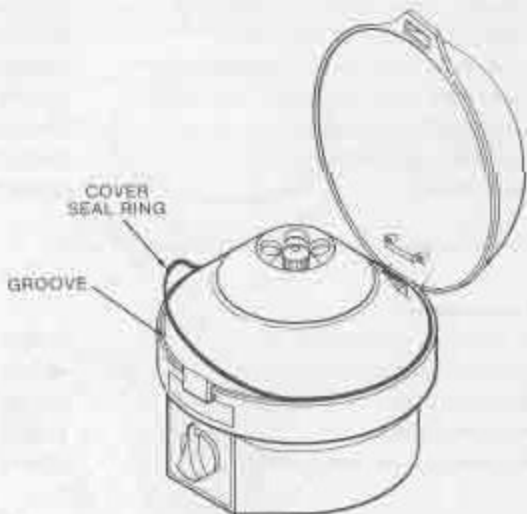

Figure 5-1. Cover Seal Ring.
- a. Remove worn cover seal ring by peeling it from groove of housing (Figure 5-1).
- d. Orient new ring as shown in Figure 5-1, and press firmly around circumference of groove. Make sure that open space between ends of ring is at rear of centrifuge.